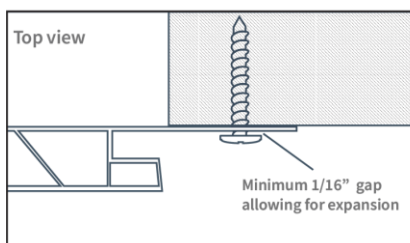

Fig. 1
- Allow a minimum of 1/16" (about the thickness of a dime) between the back of the fastener head and the screw flange (Fig 1).